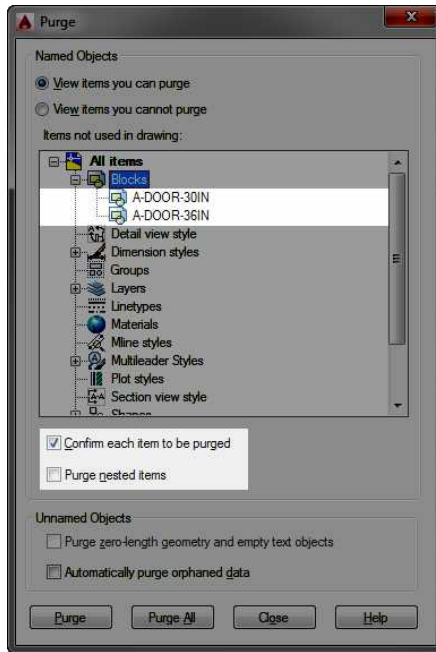

FIGURE 9.52: Deleting the block references with the Purge dialog box
4. Click the plus sign (+) to expand the Blocks entry to display the two door blocks (see Figure 9.52).